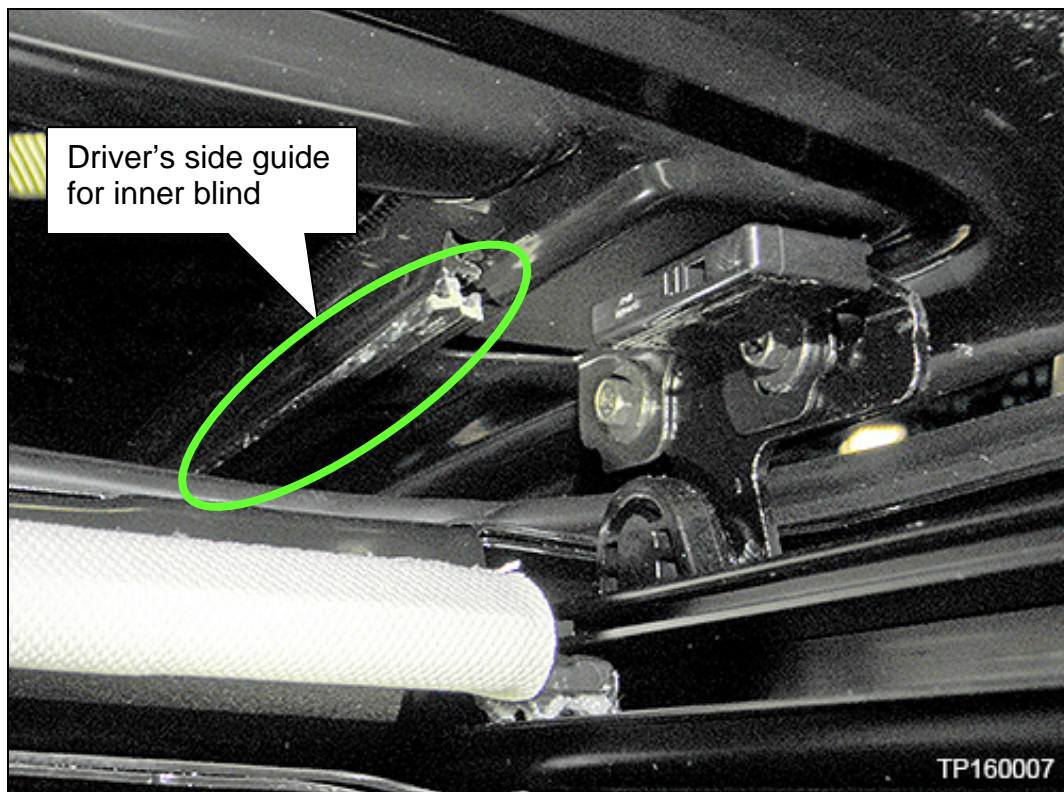

Figure 51
- a. Slide the top of the left and right inner blinds onto their guides (Figure 51).